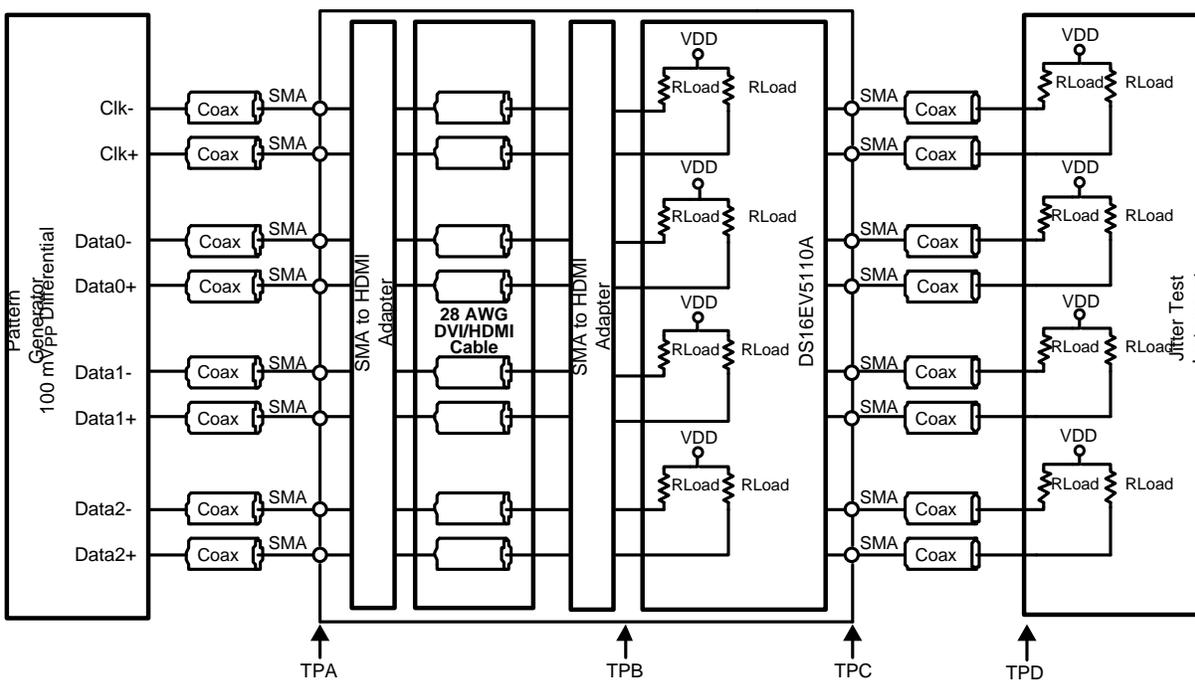

Figure 2. Test Setup Diagram for Jitter Measurement
(3) Allowed supply noise (mVP-P sine wave) under typical conditions.
(4) Specification is ensured by characterization and is not tested in production.
(5) Deterministic jitter is measured at the differential outputs (TPC of Figure 2), minus the deterministic jitter before the test channel (TPA of Figure 2). Random jitter is removed through the use of averaging or similar means.
(6) Total Jitter is defined as peak-to-peak deterministic jitter from (5) + 14.2 times random jitter in psrms.
(7) Random jitter contributed by the equalizer is defined as  $\sqrt{J_{OUT}^2 - J_{IN}^2}$ . JOUT is the random jitter at equalizer outputs in psrms, see TPC of Figure 2; JIN is the random jitter at the input of the equalizer in psrms, see TPA of Figure 2.